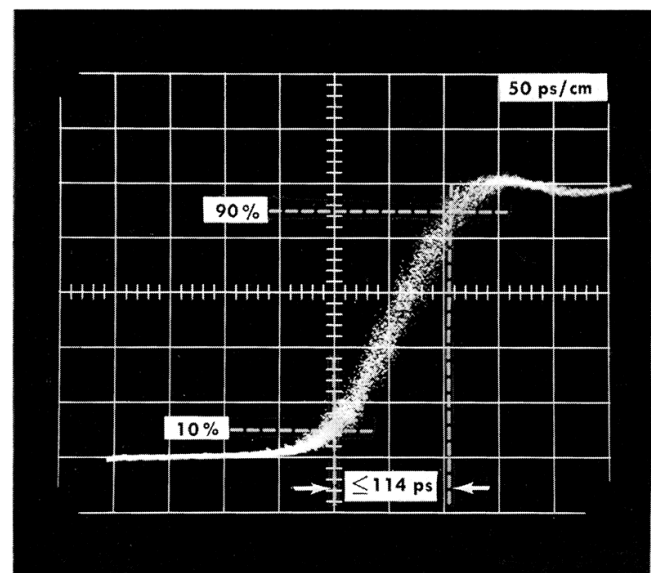

Fig. 6-31. Typical display showing rise time.
- Adjust the Time Position control for a display similar to Fig. 6-31.